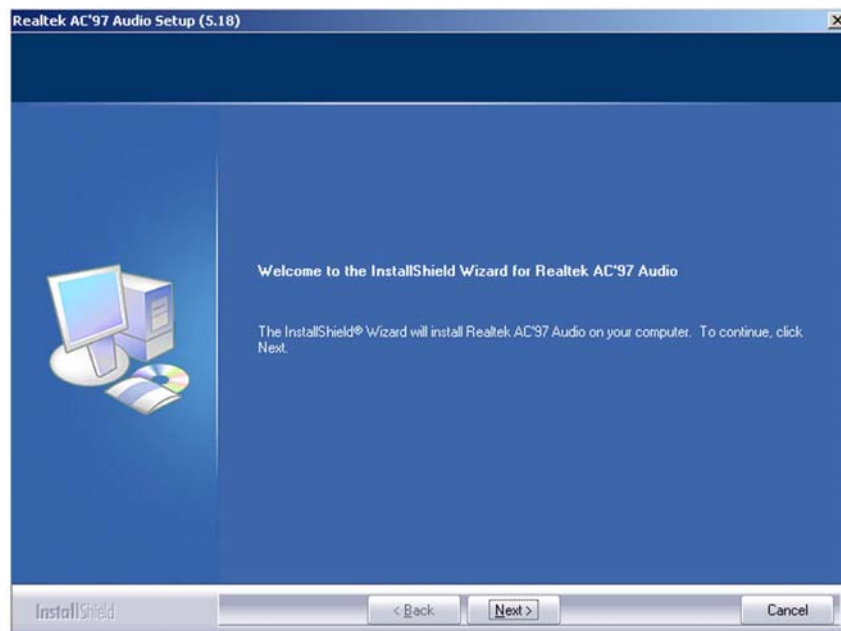
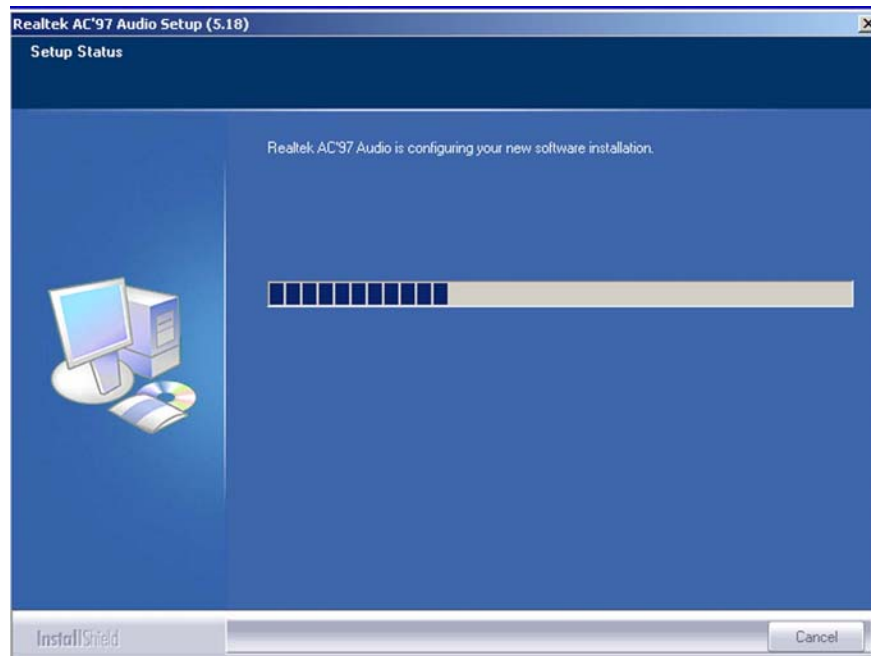

Figure 7-30: AC'97 Audio Driver Welcome Screen
Figure 7-31: AC'97 Audio Driver Software Configuration
Step 6: After the install shield is prepared, the welcome screen shown in **Figure 7-30** appears. To continue the installation process, click the “**NEXT**” button. The install shield starts to configure the new software as shown in **Figure 7-31**.